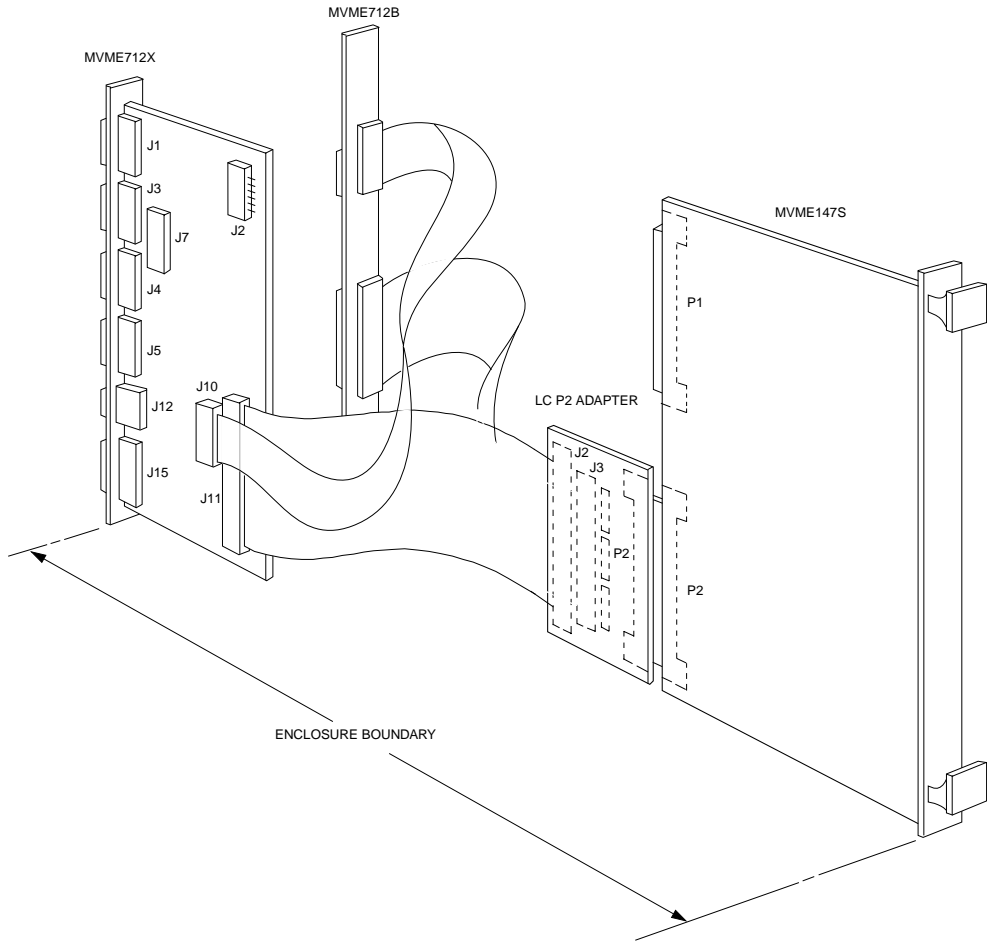

Figure 2-9. MVME712B External SCSI Connections
The MVME712B is designed to be used *in conjunction with* one of the MVME712x modules (MVME712A, MVME712AM, MVME712-12, or MVME712-13). The MVME712x can be connected through the MVME712B to external SCSI devices as shown in Figure 2-9.
3. **MVME712-12 and MVME712-13:** Attach the cable supplied with the MVME712x module from LCP2 adapter connector J2 to connector P2 on the MVME712x module. Be sure to orient cable pin 1 with connector pin 1. See Figure 2-9.
MVME712A and MVME712AM: Attach the cable supplied with the MVME712x module from LCP2 adapter connector J2 to connector J11 on the MVME712x module. Be sure to orient cable pin 1 with connector pin 1. See Figure 2-9.